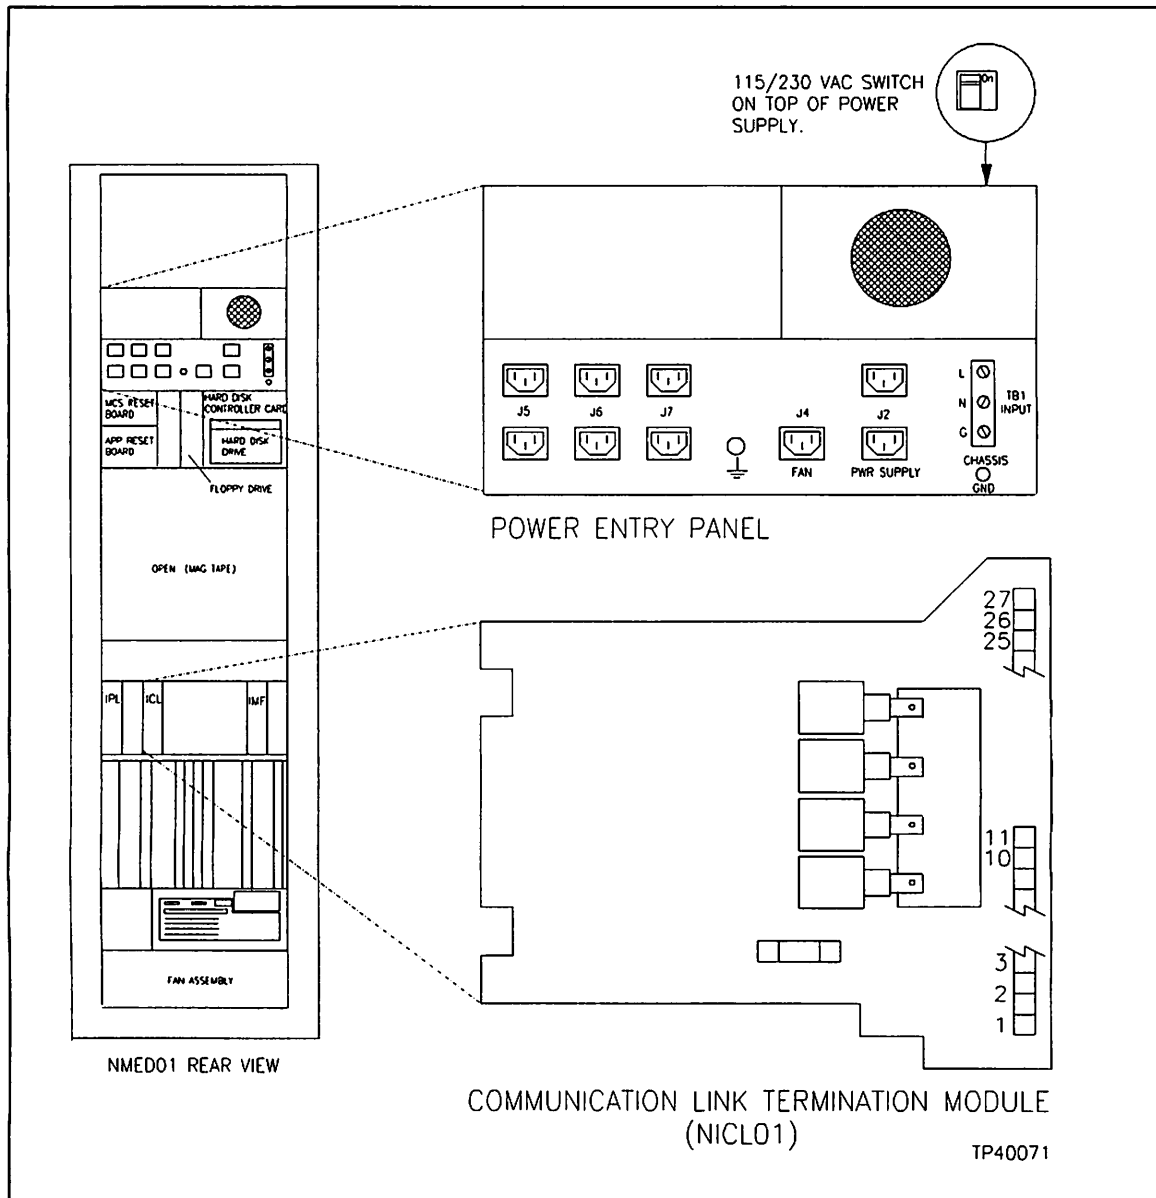

Figure 2-2. NMED01 PEP and NICL01 Location
**NMED01** Located at the rear of the NMED01 above the multibus card cage is a rack which accommodates a Communication Link Termination Module (NICL01) (Figure 2-2). Refer to the NICL01 in the Bailey termination manual I-E93-911 for wire connections.
**NMED01** Located just below the power supply near the top of the cabinet is the Power Entry Panel (PEP). The PEP accepts 120 VAC or 240 VAC at 50/60 Hz. A switch located on top of the power supply (Figure 2-2) is used to select the desired input voltage. Refer to MCS Remote Electronics Driver Cabinet.